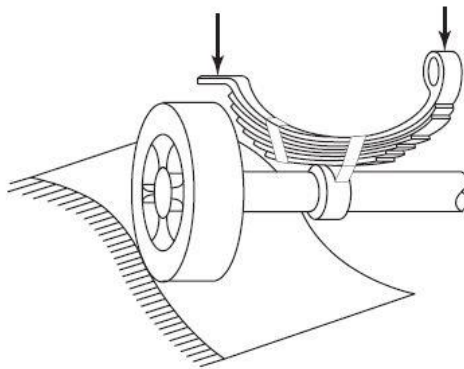
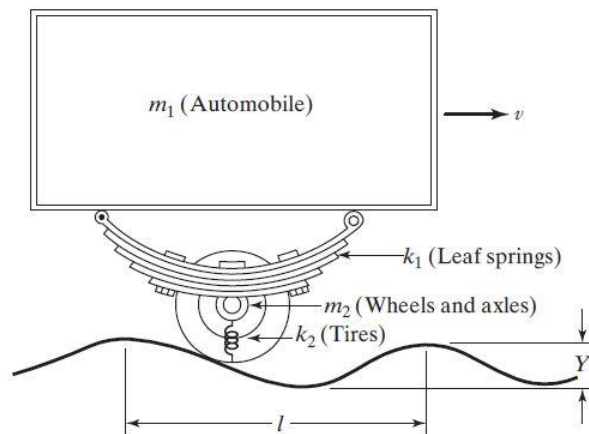

FIGURE 5.30
FIGURE 5.31
- 5.12 One of the wheels and leaf springs of an automobile, traveling over a rough road, is shown in Fig. 5.30. For simplicity, all the wheels can be assumed to be identical and the system can be idealized as shown in Fig. 5.31. The automobile has a mass of $m_1 = 1000$ kg and the leaf springs have a total stiffness of $k_1 = 400$ kN/m. The wheels and axles have a mass of $m_2 = 300$ kg and the tires have a stiffness of $k_2 = 500$ kN/m. If the road surface varies sinusoidally with an amplitude of $Y = 0.1$ m and a period of $l = 6$ m, find the critical velocities of the automobile.